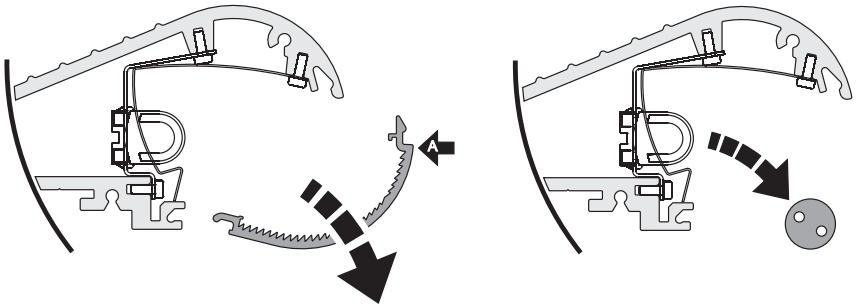

Figure 12: Tube removal
2. See Figure 12 on page 20. First, press the upper edge of the polycarbonate front cover (A) in to release it from its retaining channel in the luminaire profile. This operation can be carried out by hand, but the special clamping tool supplied with the Rail Light can save time and ease the operation.